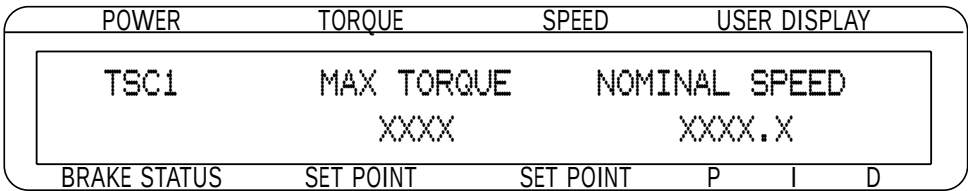

Figure 3-16 TSC1 Eddy-Current Setup Menu
5. Press SHIFT to get to the TSC1 Eddy-Current Setup Menu. See *Figure 3-16 TSC1 Eddy-Current Setup Menu*.